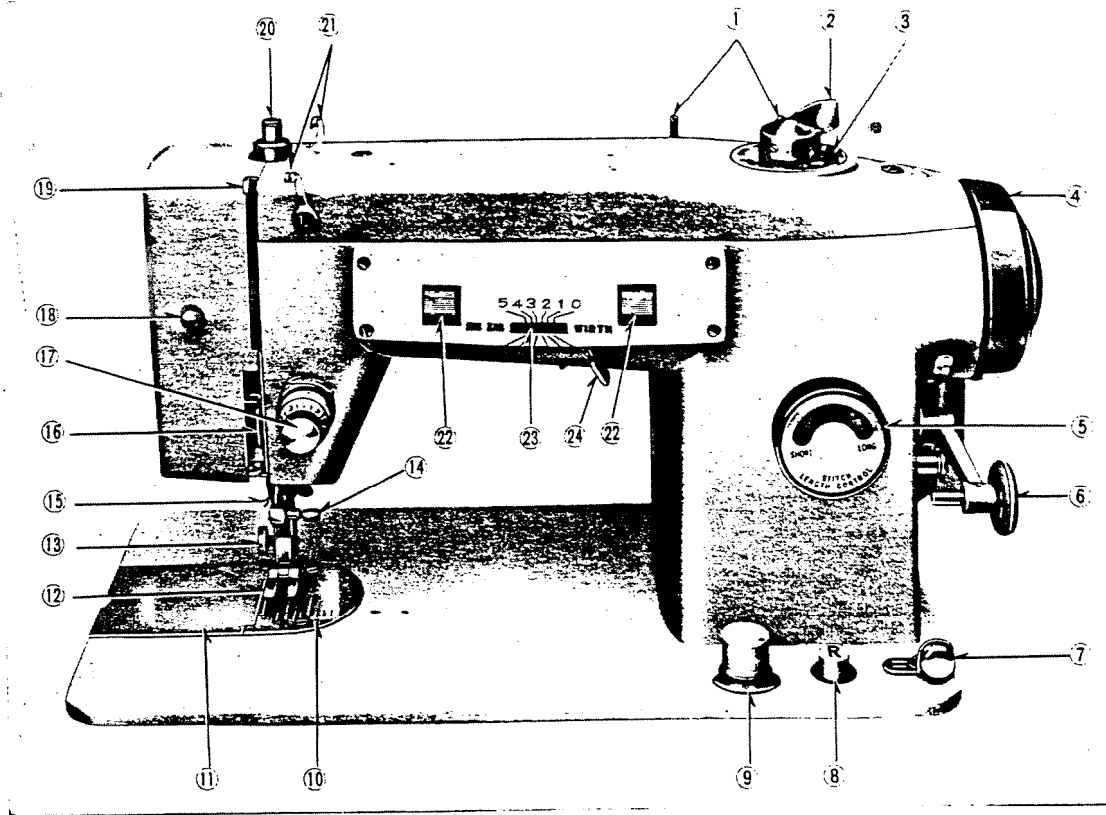
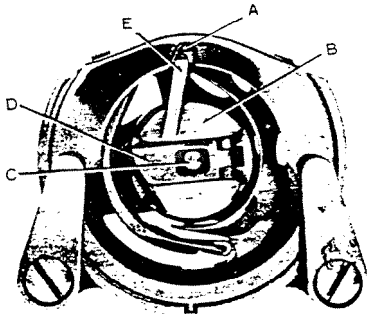

Fig. 1
Fig. 9
Open hinged cover plate left of the needle. (See 11, Fig. 1) Hold the bobbin case latch, (D), Fig. 9, between the thumb and forefinger of the left hand, with at least three inches of thread running from the top of the bobbin case to the right. Insert and center the bobbin case on the stud of the shuttle body, (C). Be sure the bobbin case finger, (E), is opposite the shuttle race notch, (A). Press the bobbin case (B) into the shuttle as far as possible until latch catches on the centerpost of the shuttle.
Changing the Foot and Plate. To change presser foot 12, Fig. 1) loosen thumb screw 13 and remove zigzag foot. Replace with hinged narrow foot and tighten screw securely.
To change needle plate (10, Fig. 1) remove screws and lift off with cover plate 11 attached. Turn assembly wrong side up. Hold needle plate with right hand and cover plate with left. (Fig. 12-A)